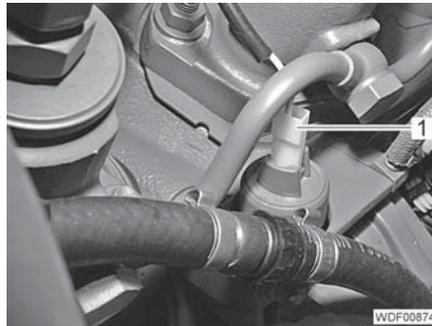

Fig. 16 LDA
- Remove the connector (Fig. 16,1) from the LDA.